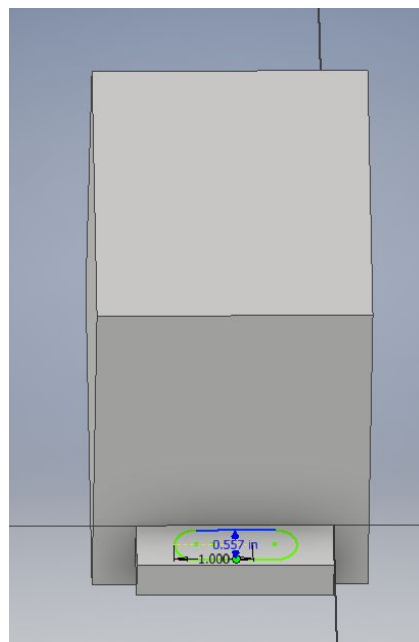

Figure 3-3
- On the phone stand, place a center to center slot that follows the dimensions shown in figure 3-3, then extrude the slot downwards as far as to make a hole going through the rectangle.